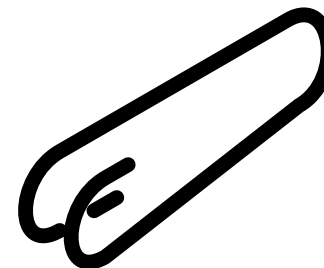

Figure 12: saddle tie loop to cart draw pole fixing hooks.
- 12) Make up the saddle tie loop to cart draw pole hooks as shown in Figure 12.
- 6) Now fix the ends of the cart draw poles to the saddle tie loops using more R6 loops like those shown in Figure 12. You may have to change their length to suit the cart and saddle, but if you make them from pieces of R6 300 mm long it will be close. This harness suits drawpoles which are well apart; 700 mm is good and makes sure the poles do not rub on the animal. The loops on the draw poles should be at the ends of the poles so that the poles cannot impact the animal.